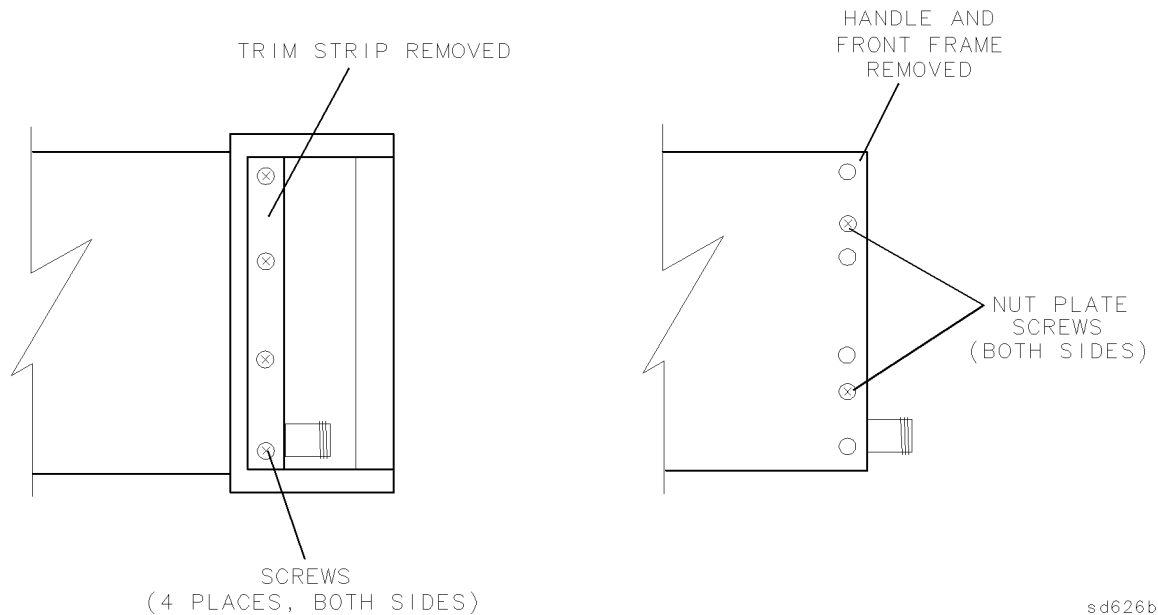

Figure 2-1. Removing the Handles and Front Panel
1. Switch OFF the analyzer’s line power. Remove the front panel by following these steps and referring to Figure 2-1: